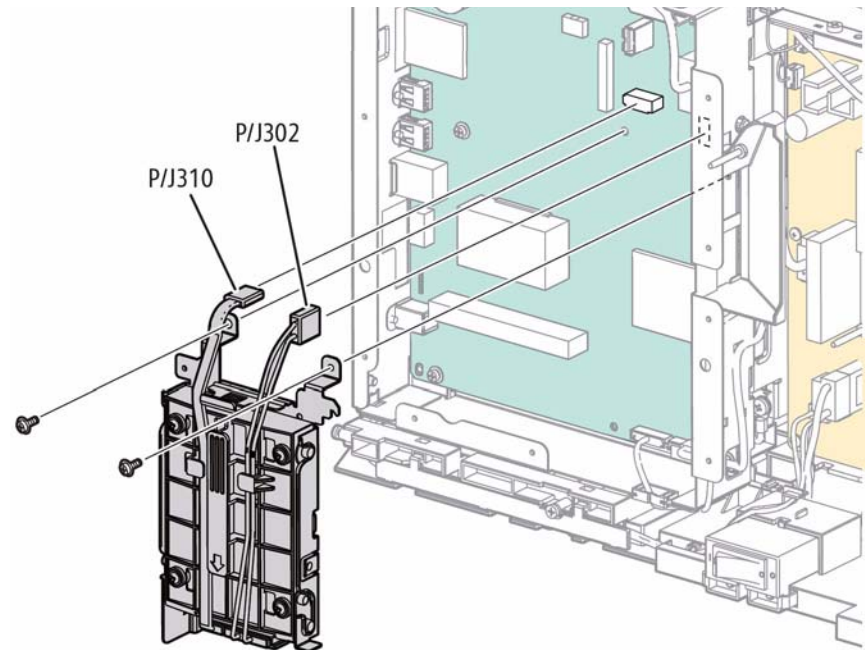

Figure 1 Remove the Hard Drive
8. Refer to Figure 1 to locate and to remove 2 screws (silver, with a washer, M3, 6mm) that secure the Hard Drive bracket to the IP Board and ESS housing to remove.